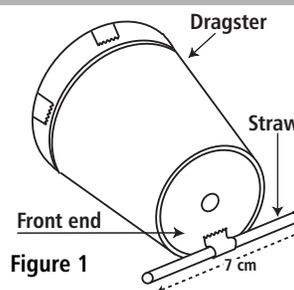

Figure 1
1. Cut a straw 7cm long and tape the straw to the rim on the front end of the dragster (see figure 1).